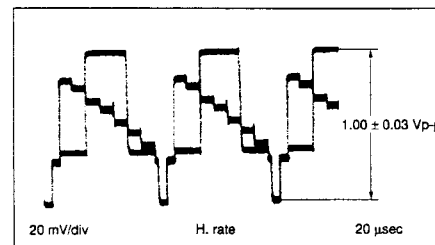

Fig. 3-3-3 EE Y level
- (1) Connect an oscilloscope to Y OUT TERMINAL.
- (2) Set EVR mode by pressing "K" button of the presetting unit more than 2 seconds.
- (3) Set "A : 11" pressing 1 digit key twice of the remote controller.
- (4) Adjust TV PROG "+" or "-" button for 1.00 ± 0.03 Vp-p (See Fig. 3-3-3).
- (5) Set normal VCR mode by pressing "K" button of the presetting unit again so adjustment data is memorized.